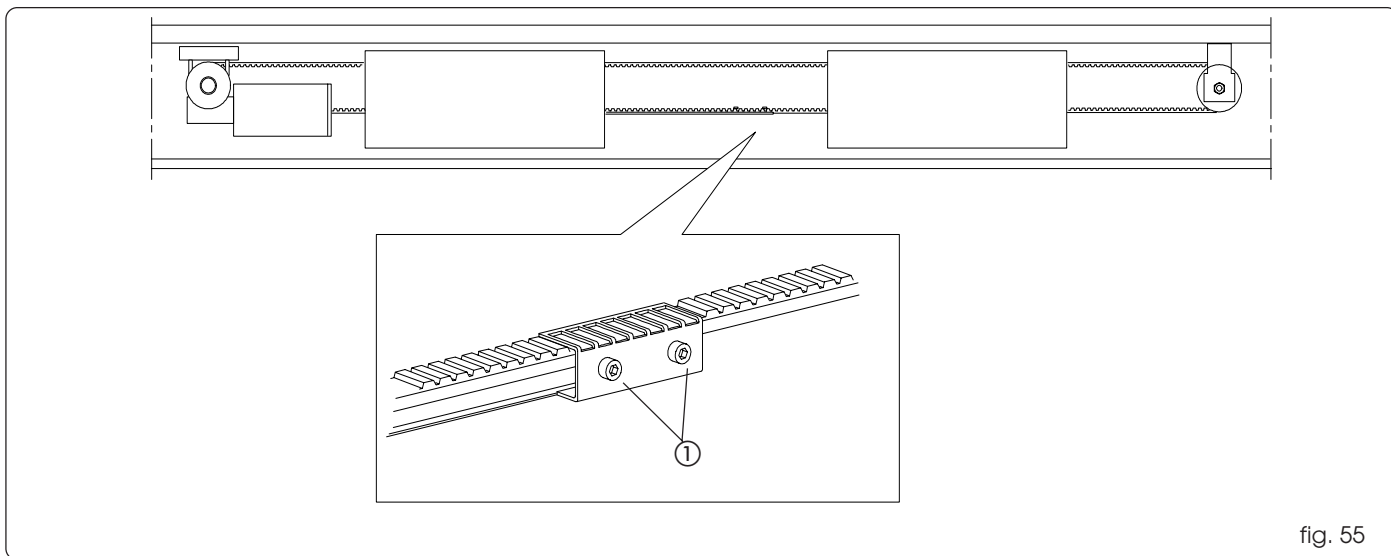

fig. 55
The activation module is supplied with only one drive rod secured to the belt, always connected to the lower section and facing left (fig. 55).
For single leaf left-opening doors, the two securing screws must be loosened (fig. 55 ref. ①) and the drive rod must be manually taken to the right.